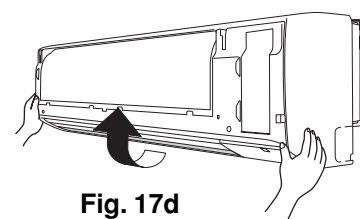

Fig. 17d
- (6) Lift up the grille in the direction shown by the arrow and pull the grille towards you to remove it. (Fig. 17d)